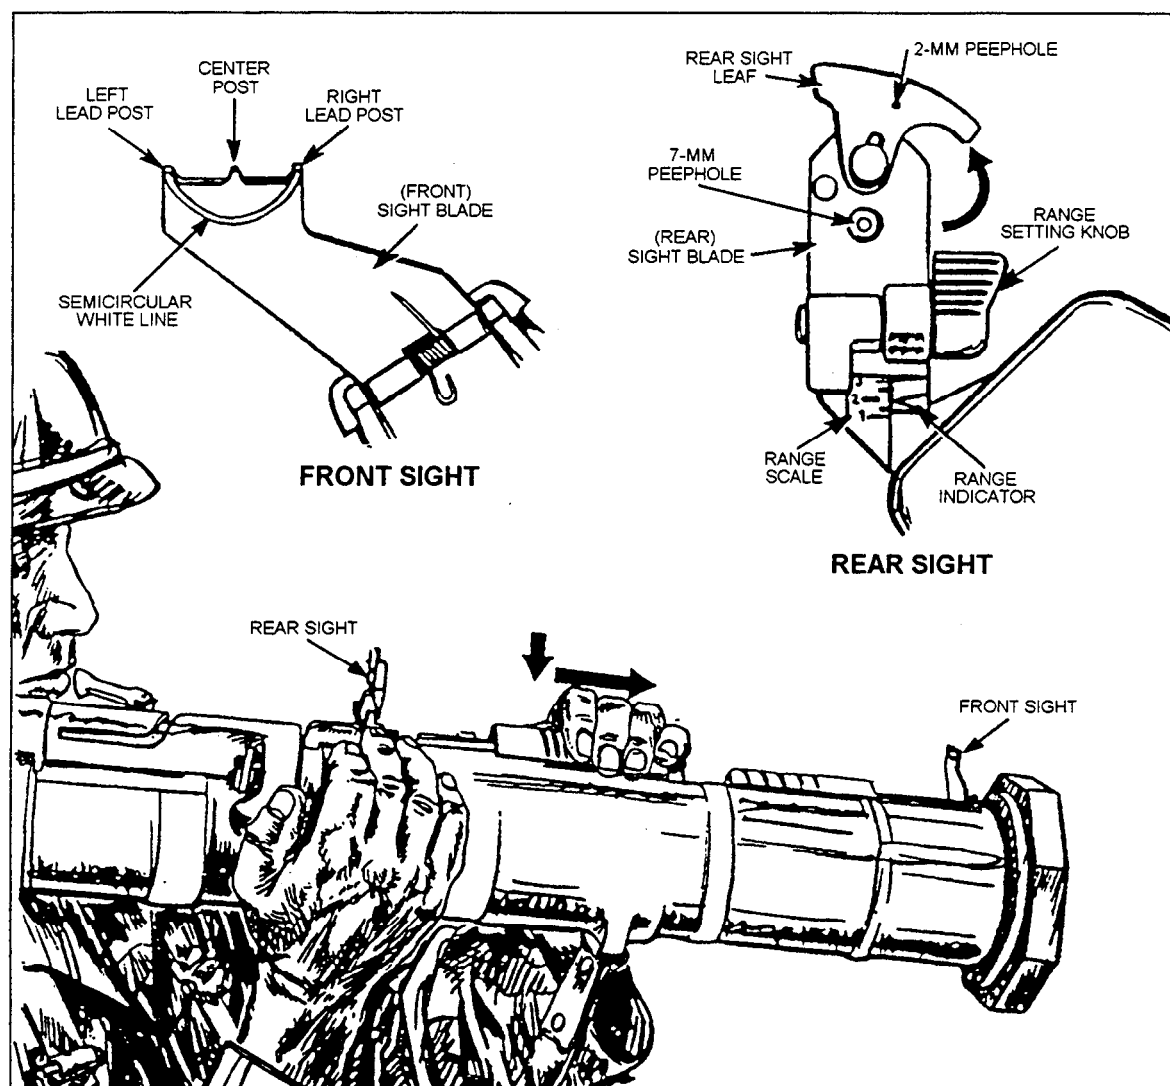

Figure 14-35.—Sight system.
- **Front Sight.** The front sight consists of a sight blade with a center post and left and right lead posts (fig. 14-35). It has a semicircular white line to aid in obtaining the proper sight picture. To open the front sight cover, press down on the sight cover and slide it rearward.
- **Rear Sight.** The rear sight consists of a sight blade, range setting knob, range scale, 2-mm peephole (for normal light conditions), and 7-mm peephole (for limited visibility) (fig. 14-35). To open the rear sight cover, press down on the cover and slide it forward.